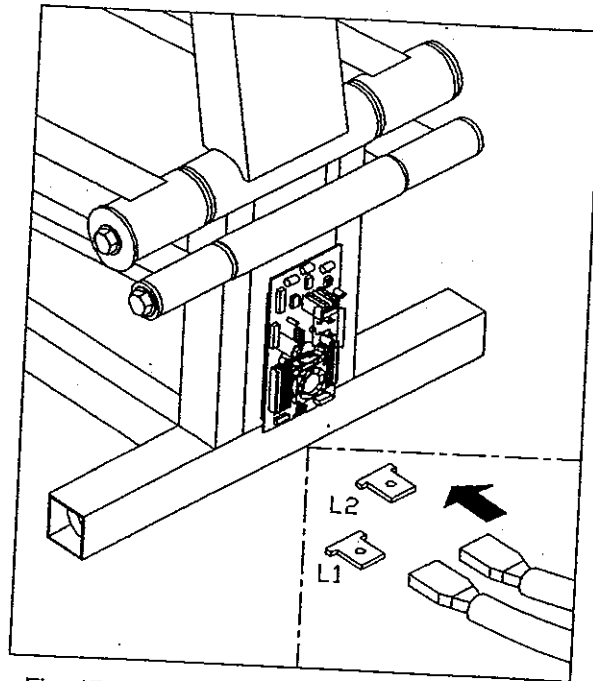

Fig. 15
2. Plug the two blue wires to the L1 & L2 terminals on the drive board (see Fig. 15).